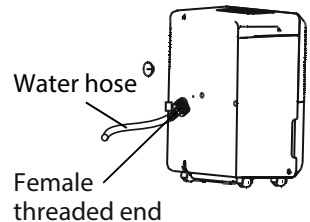

Fig. 8
- Install the female threaded end of the water hose into the adaptor A. (See. Fig. 8), then lead the water hose to the floor drain or a suitable drainage facility.